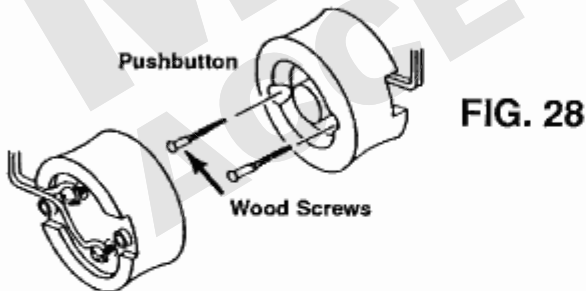

FIG. 28
- Strip about 1/4" of insulation off each end of pushbutton wire. Connect pushbutton wires to the two screws on rear of pushbutton as shown in Fig. 28.